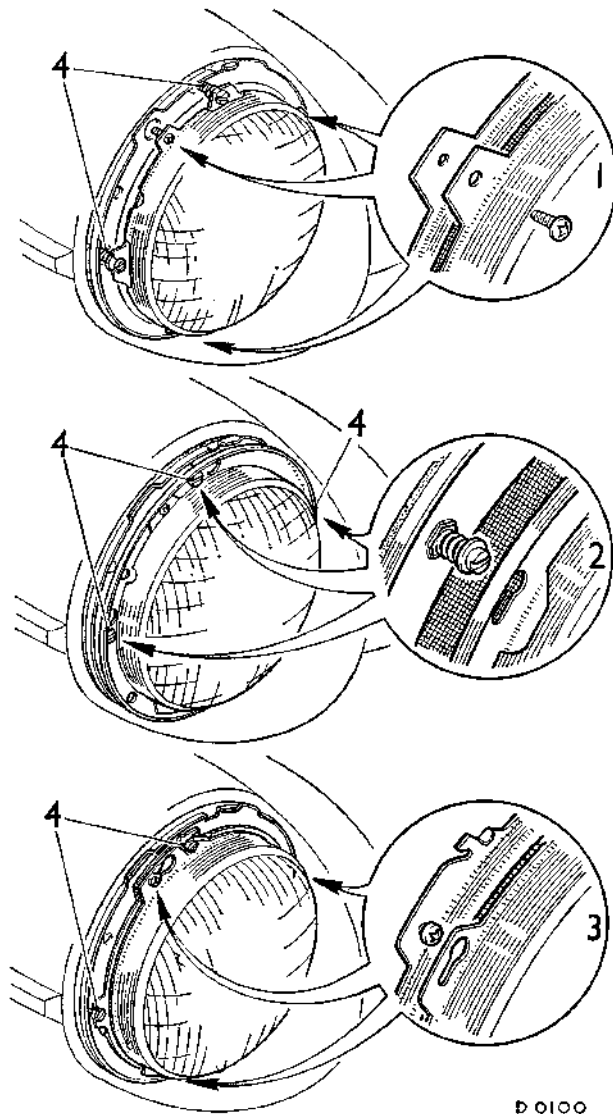

Fig. N.15
Variations within the two basic types cater for the local lighting regulations existing in the country for which the car was produced. The method of retaining and adjusting the light unit together with the type of lens and bulb used are subject to territorial variation. Fig. N.15 shows the alternative methods of retaining and adjusting the light unit and Fig. N.16 the different types of bulb fittings used.
Removable-type retaining screw (1) Fig. N.15
- (1) Unscrew the outer rim retaining screw from the bottom of the rim, and withdraw the rim.
- (2) Remove the rubber dust excluder (if fitted).
- (3) Remove the three screws securing the light unit retaining plate and withdraw the light unit from the lamp body.
Combined adjusting/retaining screw (2) Fig. N.15
- (4) Carry out the operations detailed in (1) and (2).
- (5) Press the light unit inwards against the tension of the springs and turn it in an anti-clockwise direction until the heads of the screws can pass through the enlarged ends of the slots in the retaining plate, then withdraw the light unit.
Captive-type retaining screw (3) Fig. N.15
- (6) Carry out the operations detailed in (1) and (2).
- (7) Slacken the three retaining screws and turn the light unit retaining plate in an anti-clockwise direction until the heads of the screws can pass through the enlarged ends of the slots in the retaining plate, then withdraw the retaining plate and light unit.